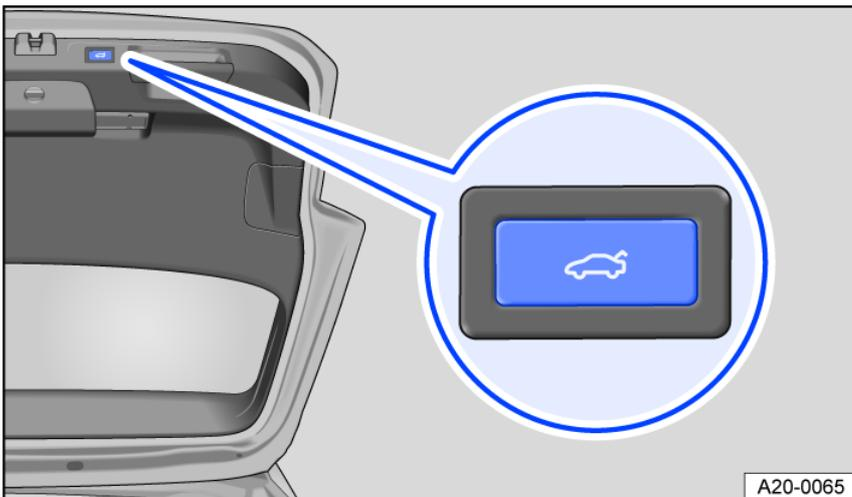

Fig. 61 In the open trunk lid: Button for power closing the trunk lid.
1. Press the button in the trunk lid when it is open *fig. 61*.
Or: press the button on the trunk lid while the lid is opening or closing *fig. 61*.
2. Press and hold the  button in the trunk lid until the emergency flashers start flashing *fig. 61*.
2. Press and hold the  *fig. 61* button in the trunk lid until the emergency flashers start flashing.